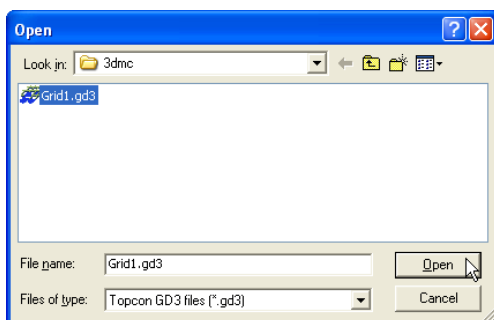

Figure 8-1. Open 3D Grid File
2. On the **Open** dialog box, navigate to the location of the desired file, select it, and click **Open** (Figure 8-1 on page 8-2). The information from the selected file is added to the 3D Project file.